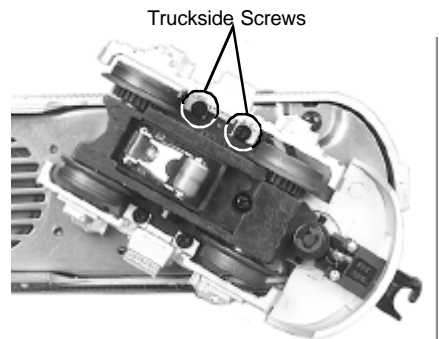

Figure 7. Screws to Remove to Access the Traction Tires
1. Remove the truck sides from the truck block in order to slip the new tire over the grooved drive wheel. To do this, remove the screws as shown in Fig. 7.